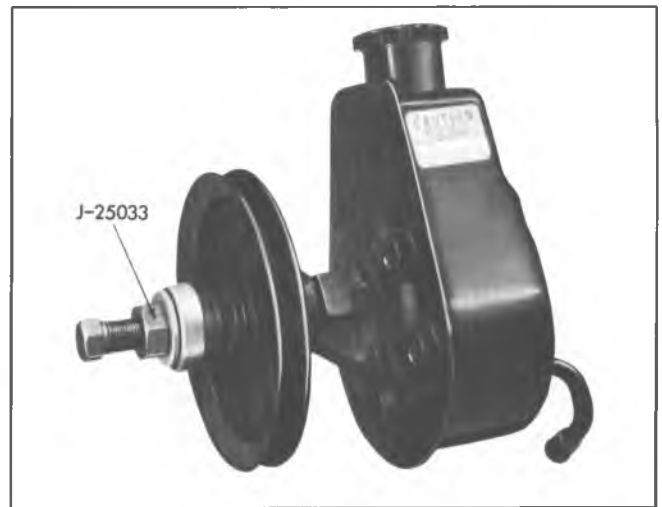

Fig. 2—Power Steering Pump Pulley Installation
20. Install pump pulley by inserting tool J-25033 through pulley hub and threading the bolt into the power steering pulley shaft as shown in Figure 2.